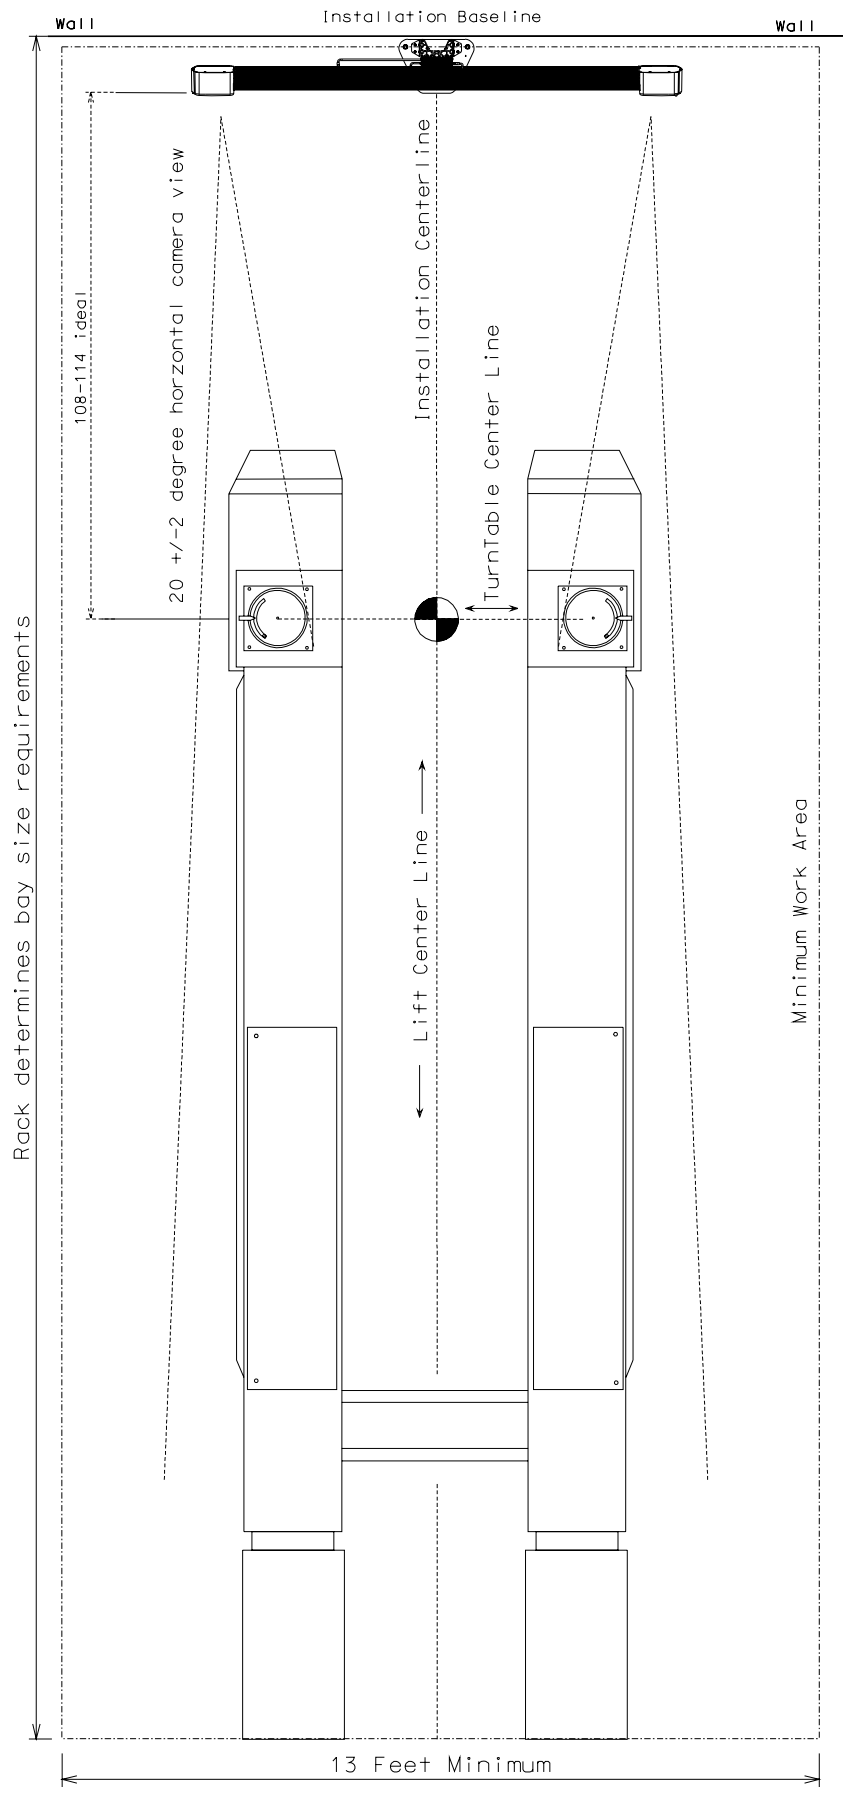

Figure 5
1. Determine the **Lift Centerline**. Measure between runways front and rear and mark midpoints on both. A mark can be made forward of the lift by placing one end of a string at a spot on one side of the lift, placing a marker on the other end of a string, and scribing an arc forward of the lift across the centerline. Repeat scribing an arc from the same spot on the other side of the lift. The intersection of the two arcs is the lift centerline. Use a chalk line to snap a centerline between the marks, and project out at least 114 inches in front of the rack, or to the shop wall if closer. See *Figure 5*.
2. Determine the **Turntable Centerline** by raising the lift to the predetermined alignment height (step 1). Use a plumb-bob from the center of the turntable and mark a spot on the floor next to each turntable. Snap a chalk line through the marks to establish the centerline. Use the plumb bob on the outside of the turntables to mark a center spot on the floor on the outside of each runway (See *Figure 5*).
4. Determine the **Installation Baseline**. The Ultra™ camera supports must be installed a minimum of 90 inches (2286 mm), and no greater than 120 inches (3048 mm) from the center of the turntables to the rear of the support base. The ideal distance for optimum performance is 108" - 114" (2743 - 2896 mm). Measure 108" – 114" (or whatever the space will allow within the above parameters) from the turntable centerline forward at two locations and mark these points. Snap a chalk line on the floor through these two points. This is the *installation baseline* (See *Figure 5*). Record this distance in the *INSTALLATION DIMENSIONS WORKSHEET 1* shown on page 8.